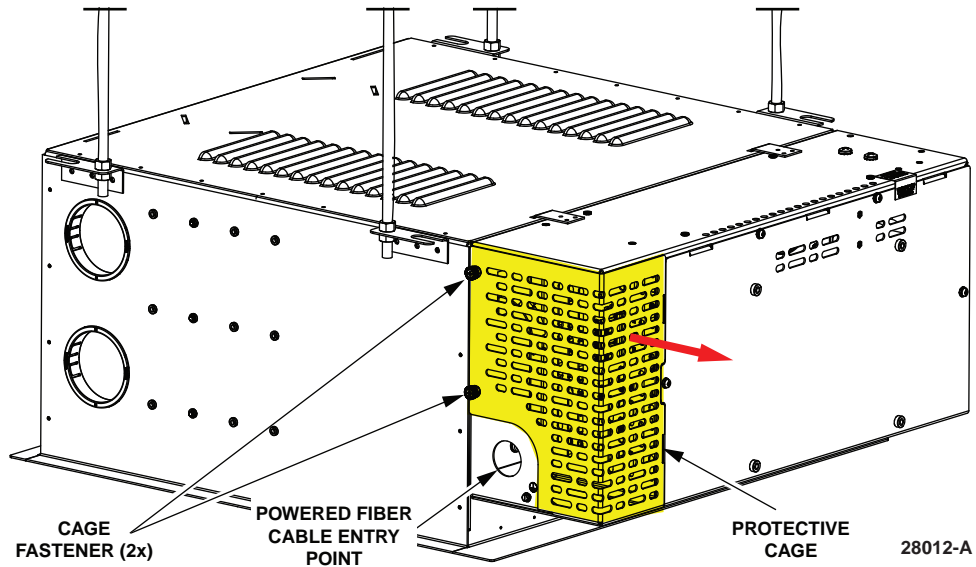
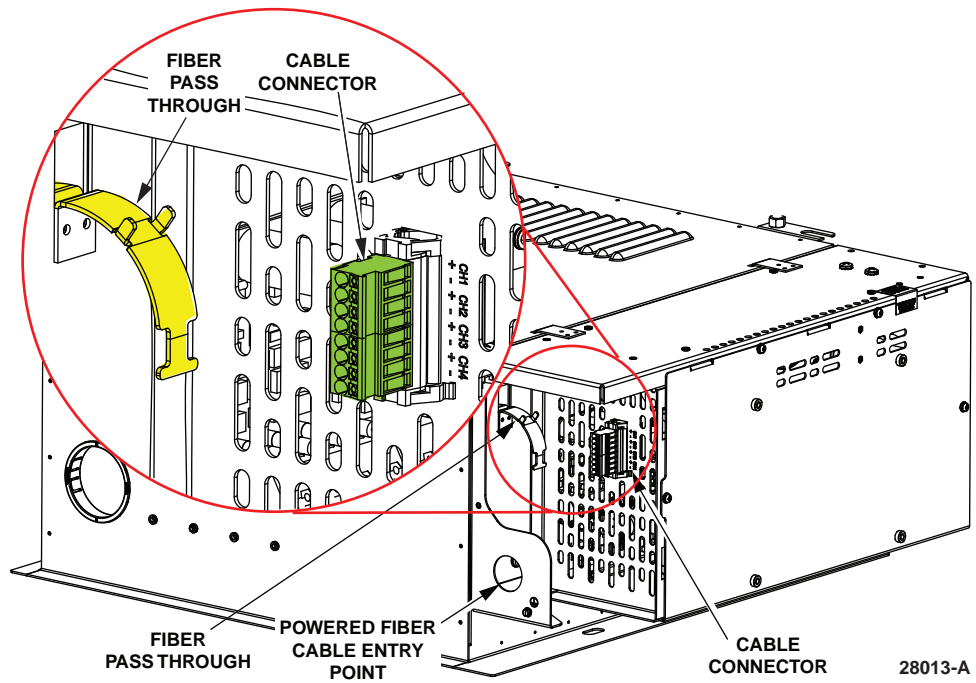

Figure 9. Cable Portal and Protective Cage
Figure 10. Connecting the Cable
The CommScope powered fiber cable is connected to the back of the powered backplane (exterior of the enclosure). Use the following procedure, referring to Figure 9, Figure 10, and Figure 11.
1. Remove the protective cage shown in Figure 9.
3. Pass the powered fiber cable through powered fiber cable entry point identified in Figure 9 and reassemble the cable gland.
5. Remove the input connectors (shown in green in Figure 10).